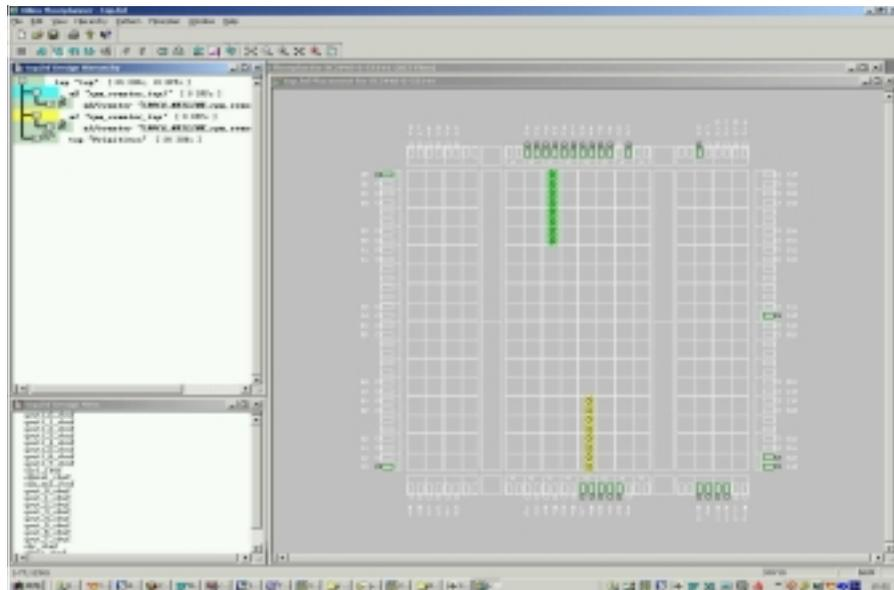

Figure 6: Implemented RPMs in FloorPlanner
- The project should now implement correctly. See Figure 6 for to view the final implementation in Floorplanner.
- Double click on *View/Edit Placed Design (Floorplanner)* under PAR in the process window to verify the design has been implemented correctly. See Figure 6 for verification.